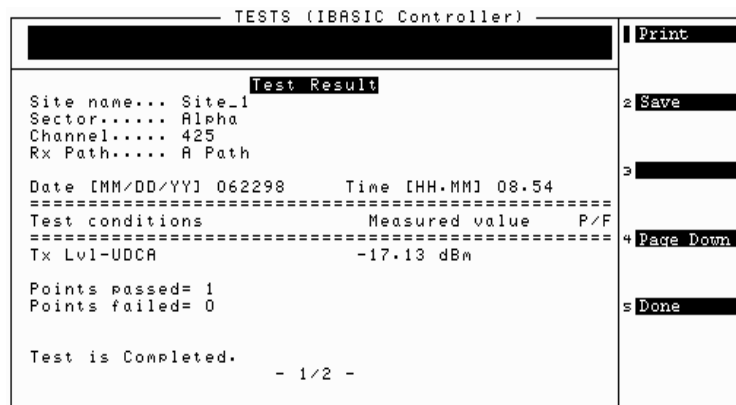

Figure 29 Test Results Table for TX Level - UDCA Measurement
- Press k1 (Proceed) to proceed to the test results table when you are finished testing on this screen (see figure 29).